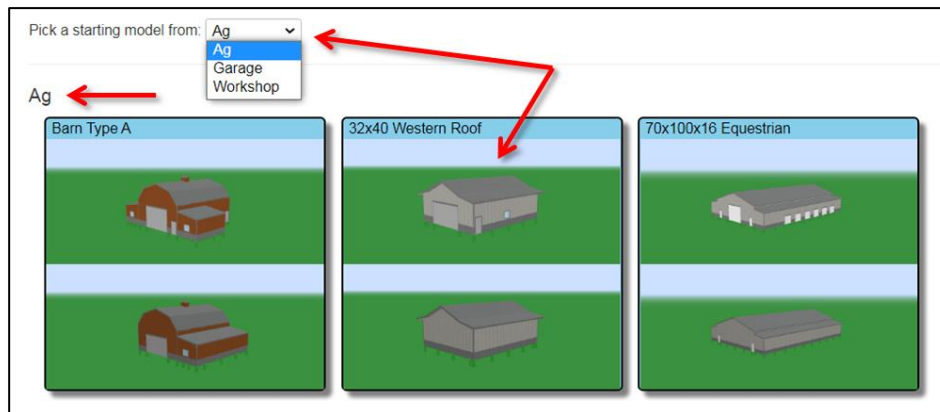

Figure 5: The *Template* drop-down list.
1. From your SmartBuild *Homepage*, click on the drop-down arrow pictured in Figure 5, to select the category of the structure you wish to build. In our example below, we have three categories of buildings from which to choose: *Ag* (Agricultural), *Garage*, and *Workshop*. (The specific categories of available templates will vary by organization.) For our example here, we will choose *Ag* from the drop-down list.